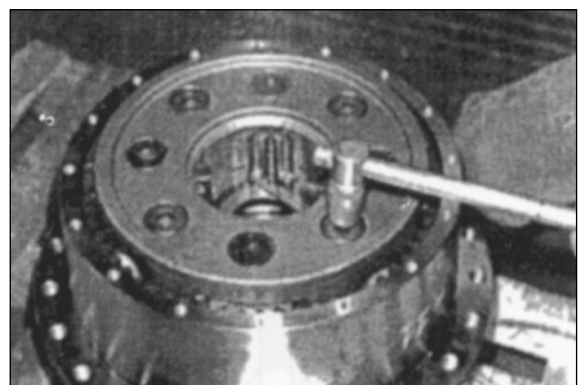

Figure 85
23. Loosen bolts (4, M 30 x 150) from third planetary gear assembly. Figure 85.